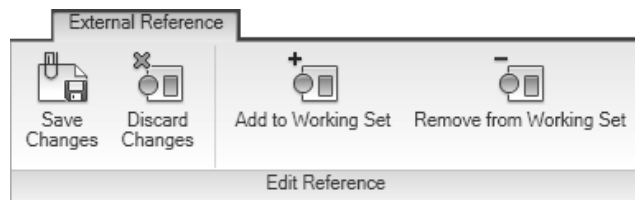

Figure 18-34 The *Edit Reference* panel
3. In the **Settings** tab of the dialog box, select both the **Create unique layer, style, and block names** and the **Lock objects not in working set** check boxes. The **Display attribute definitions for editing** check box is disabled by default. In the **Identify Reference** tab of the dialog box, select the **Prompt to select nested objects** radio button available below **Path**. Choose **OK** to return to the current drawing. At the **Select nested objects:** prompt, select the objects you want to modify and press ENTER. The **Edit Reference** panel is added to **Ribbon** (Figure 18-34) and the objects that have not been selected for modifications become faded. The fading is controlled by the **XFADECTL** system variable or by using the **Xref display** slider bar in the **Display** tab of the **Options** dialog box. You can add or remove objects to the working set by choosing the respective buttons in the **External Reference** panel in the **Edit Reference** tab of the **Ribbon** or by using the **REFSET** command. Once you have defined a working set, all the standard AutoCAD commands can be used to modify them.